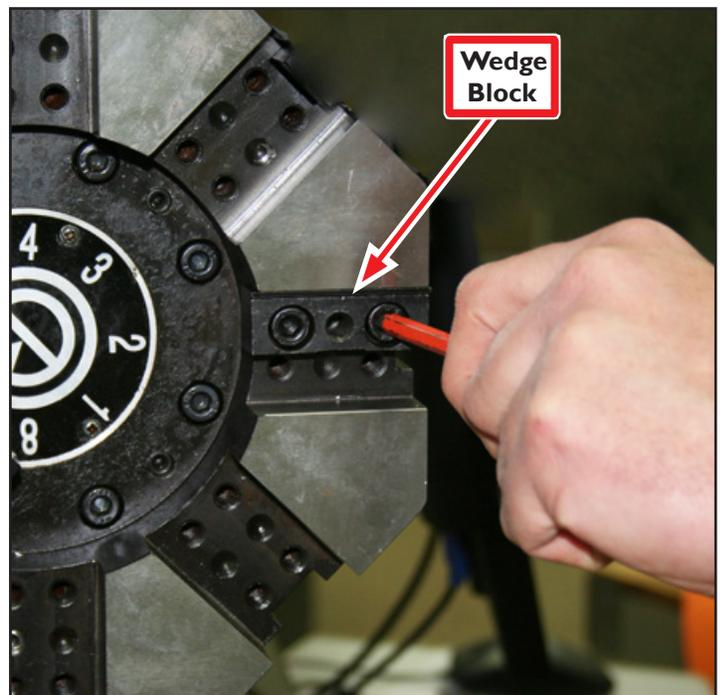

Figure 31
3. Remove Wedge Block from tool pocket as shown in **Figure 31**; retain screws to mount boring block.
15. Remove Wedge Block as shown in **Figure 31** (if installed).